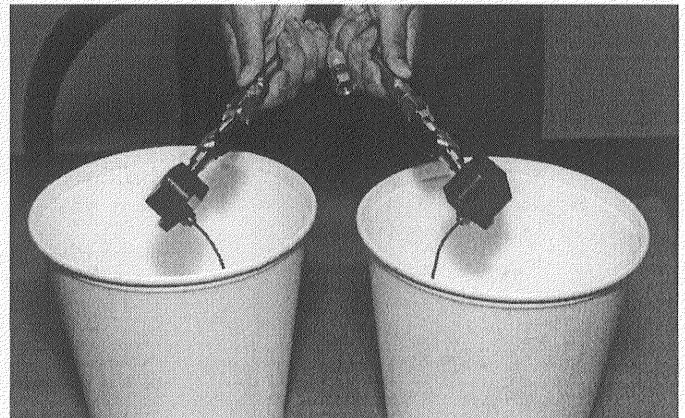

Fig. 12
3. Place separate clean containers under each individual Side Block. Open manual Material Valves (black arrow forward, see Fig. 13 & 14) on each Side Block simultaneously to allow trapped air to escape the Hose and material to flow into the containers until all air is purged from the material system. (see Fig. 12)